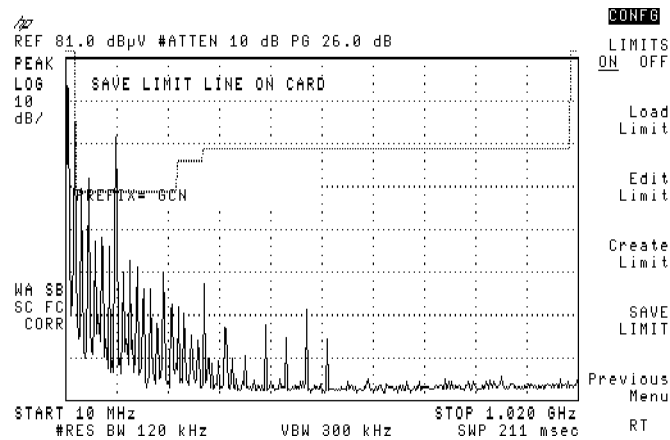

Figure 3-80. The **Limit Lines** Softkey Menu.
14. Press **MODE**, **MODE**, which returns you to the EMC analyzer. See Figure 3-80.